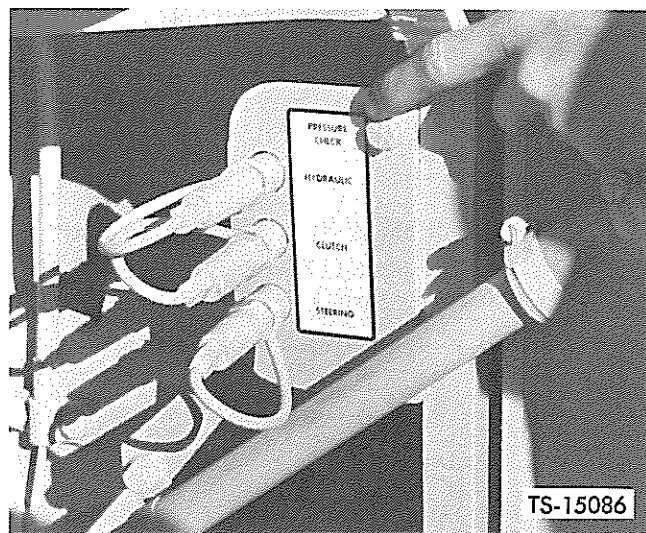

Fig. 6. Clutch, Main Hydraulic and Steering Pressure Ports
1. Remove cap on quick disconnect fitting shown in Figure 6.